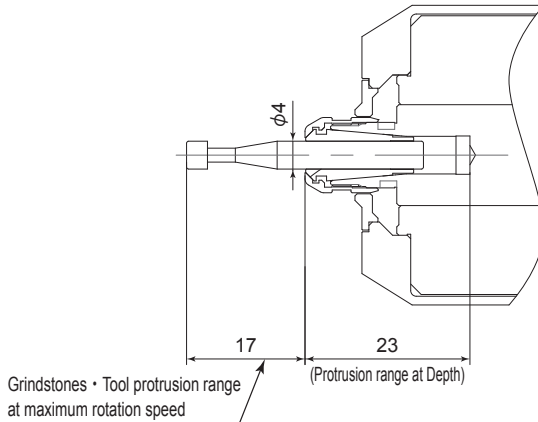

Fig. 19
- (1) The proper surface speed for general grindstones is 10 - 30m / s.
- (2) Do not exceed 17mm of Tool the protrusion depth range at Depth for mounted grindstones and cutting tools when using at the Maximum Rotation Speed (160,000 min⁻¹) (rpm) (Fig. 19). If a total length of a grindstones and cutting tools are longer than 40mm, cut off a grindstones and cutting tools before use.
- (3) If the overhang must exceed 17mm, reduce the Air Turbine speed in accordance with Table. 2.
- (4) Dress the grindstone prior to use.
- (5) Do not use cutting tools with bent or broken shanks, cracks or excessive run-out.
- (6) For grinding, the maximum depth of cut should not exceed 0.01mm radially or axially. Reciprocate the tool several times after each pass to eliminate tool pressure.
- (7) Always operate cutting tools within the allowable recommended speed of the cutting tools. Use of a cutting tool outside of the allowable speed of the cutting tools could cause damage to the spindle and injury to the operator.
- (8) Keep the cutting tool shank, Collet Nut and Collet clean. If contaminants are allowed to remain in the collet or collet nut, excessive run-out will cause damage to the cutting tool and or spindle.
- (9) Do not strike or disassemble the Air Bearing Turbine Spindle.
- (10) Do not apply excessive cutting force as to cause more than a 5% decrease of the rotation speed.
Table. 2 Use this Maximum Rotation Speed Table when exceeding the " Range of Overhang " recommendations (Refer to Fig. 19).
" N " is the maximum rotation speed used in the formula for " Range of Overhang " (Refer to Fig. 19) (160,000min⁻¹) (rpm)).